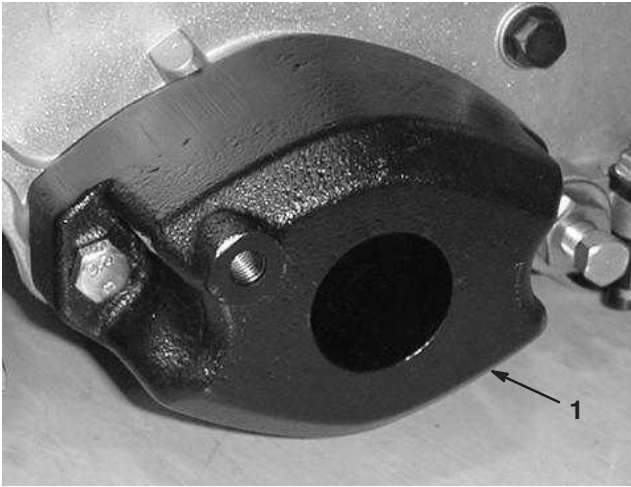

Figure 2
5. Remove the (2) bolts and nuts securing the counterweight to the left end of the cutting unit. Remove the counterweight (Fig. 2).